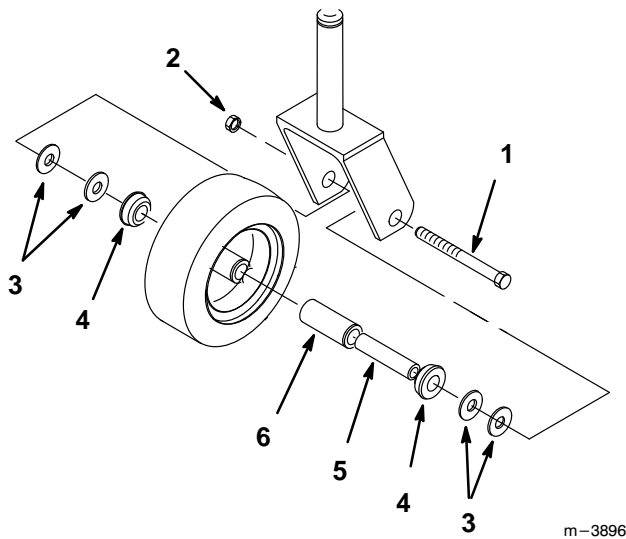

Figure 33
1. Remove the locknut and wheel bolt holding the castor wheel to the castor fork (Fig. 33).
2. Remove one washer and bushing, then pull the spanner bushing and roller bearing out of the wheel hub (Fig. 33).
3. Remove the other washer and bushing from the wheel hub and clean any grease and dirt from the wheel hub (Fig. 33).
4. Inspect the roller bearing, bushings, spanner bushing and inside of the wheel hub for wear. Replace any defective or worn parts (Fig. 33).
5. To assemble, place one (1) bushing into the wheel hub. Grease the roller bearing and spanner bushing and slide them into the wheel hub. Place the second bushing into the wheel hub (Fig. 33).
6. Install the washers on the outsides of the bushings, then install the castor wheel into the castor fork and secure with the wheel bolt and locknut. Tighten the locknut until the spanner bushing bottoms against the inside of the castor forks (Fig. 33).